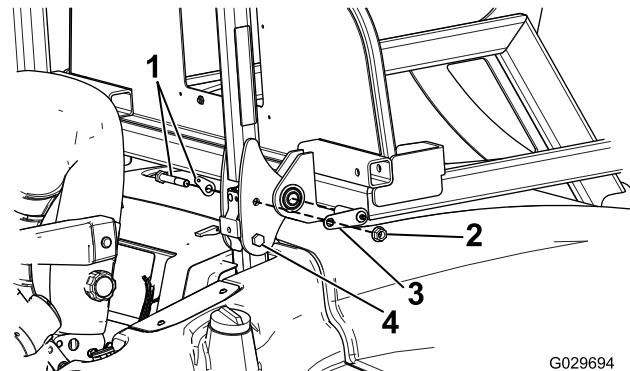

Figure 4
2. On the other side of the roll bar, install a bolt and nut supplied in the kit into the holes instead of the pin (Figure 4).
4. Remove the pivot bolt, tabbed washer, and nut from the roll bar; install the tabbed washer and pivot bolt from the inside of the bar, but do not install the nut yet (Figure 4).
- Move the carrier frame up to the roll bar bracket and secure it using a tabbed pin through the rear hole in the bracket (Figure 4).
- Secure the pivot bolt and tabbed pin using the nut you removed previously (Figure 4).
5. Remove the nut and tabbed pins from each side of the roll bar (Figure 4).